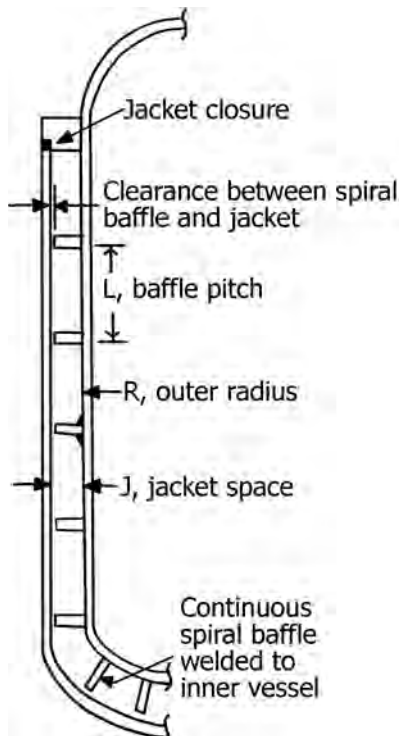

FIGURE 12.15 Conventional jacket with baffles. (Courtesy: Santosh Singh (process.santosh@googlemail.com).)
> Figure 12.15 illustrates a conventional jacket with baffles.
■ Referring to Figure 12.15, the hydraulic radius is calculated as follows: